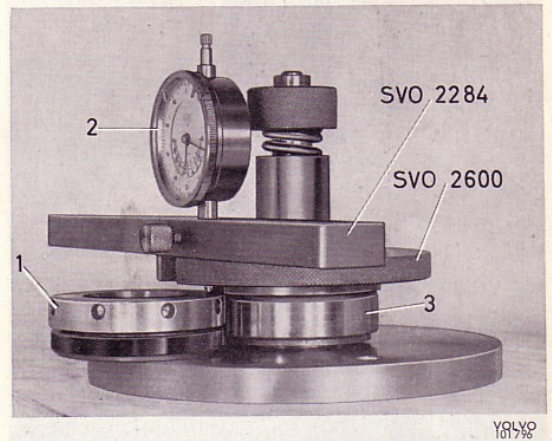
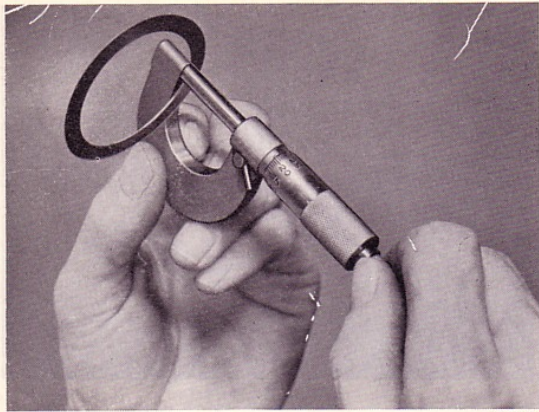

Fig. 44. Determining shim thickness
Fig. 45. Measuring the shims
rollers take up the correct position. Place the adjusting ring in the measuring fixture as shown in Fig. 44. Use indicator retainer SVO 2284 and a dial indicator. Place the measuring point of the gauge against the adjusting ring and set the gauge to zero. Then place the point of the gauge against the outer ring of the bearing. The gauge now shows immediately the requisite size for the shims. Measure the correct thickness of the shims with a micrometer, see Fig. 45. NOTE. It is not always possible to obtain shims with exactly the correct thickness. However, they must not be 0.03 mm (0.0012)
3. When correct tooth flank clearance and contact pattern are obtained, remove the differential and adjusting ring. Place the centre washer on the measuring fixture. Place a bearing in the measuring fixture and fit the plate, spring and nut. The nut should be fitted with the flat side facing downwards. Turn the plate forwards and backwards several times. Install the dial indicator gauge and retainer SVO 2284. Set the gauge to zero against the adjusting ring and then place the pointer facing the bearing, see Fig. 44. Read off the gauge. With a micrometer measure the shims the total thickness of which should correspond to the read-off value $+0.07$ mm (0.0028"). Take care of the shims together with the measured bearing. Repeat the above with the other bearing.